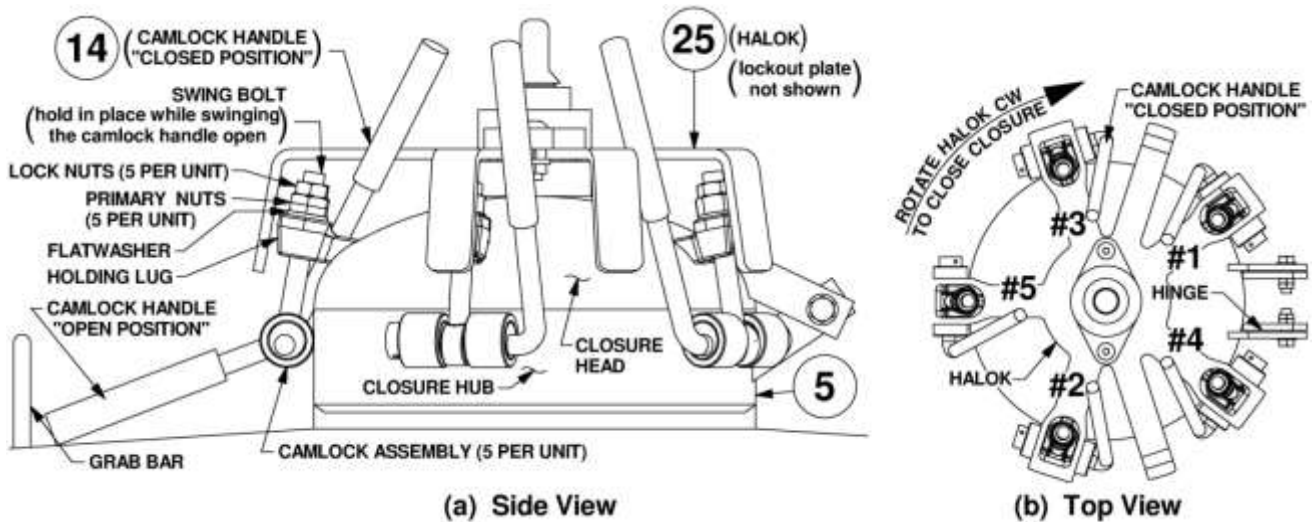

Figure 6.4.1 – Bulk Abrasive Blaster Closure Assembly
6.4. Closure Assembly Closing Procedure (See Figure 6.4.1 and 6.4.2).
- 6.4.3. Each time the closure assembly is opened all the camlock assemblies and hinge assemblies must be inspected for damage, including but not limited to, corrosion, cracks, and deformations. Make sure all the swing bolts, nuts, washers, cams, spring pins, and handles are in place (See Drawing 9.3(a)). Inspect the threads of each swing bolt and (2) nuts for corrosion or wear. Each camlock assembly and hinge must be tested for ease of operation. Any camlock, swing bolt, nut, or hinge that show signs of damage, corrosion, wear, or does not swing freely must be repaired or replaced *before* re-pressurizing the blast vessel. The camlock handles must be installed into the cam lugs as shown in Figure 6.4.1(b) so there is no interference with closure head handle or hinges and to ensure proper operation of the closure Halok® (#25). The torque on the camlock assembly nuts must be properly adjusted. See Sections 8.4 and 8.5 for closure assembly maintenance instructions and adjustment procedures.
- 6.4.4. Swing all the swing bolts into position within the holding lug. Be sure each swing bolt has the required (2) nuts and flat washer, and they are in good condition. See Figure 6.4.1.
- 6.4.5. After all the swing bolts are in position within the holding lugs rotate the Halok® (#25) clockwise to allow access to the camlock handles (#14). See Figure 6.4.1.
- 6.4.6. In the numbered sequence shown in Figure 6.4.1(b), tighten each swing bolt by swinging each of the five camlock handles into the “closed position” against the closure head. If necessary, a 1/2” pipe 12 inches long can be slipped over the end of the camlock handle to increase leverage.